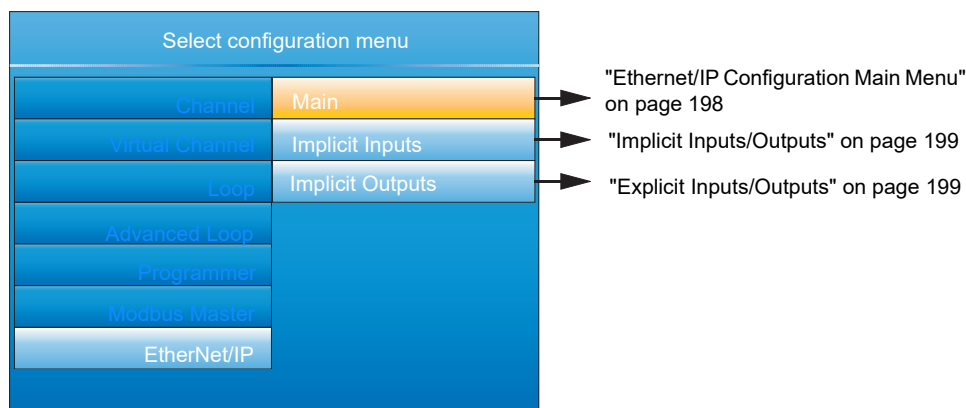

Figure 132 Client configuration
**Note:** Implicit I/O is used for continuous real-time transfer of multiple data items from instrument to instrument. Explicit I/O is used as a 'one-shot' transfer of a single data item. See "EtherNet/IP Display Mode" on page 86 for further details. Figure 132 shows that the configuration is split into three areas: Main, Implicit Inputs and Implicit Outputs, but it should be noted that the implicit inputs and implicit outputs are read only, as these can be configured only by using iTools, as described in the EtherNet/IP display mode description ("EtherNet/IP Display Mode" on page 86).